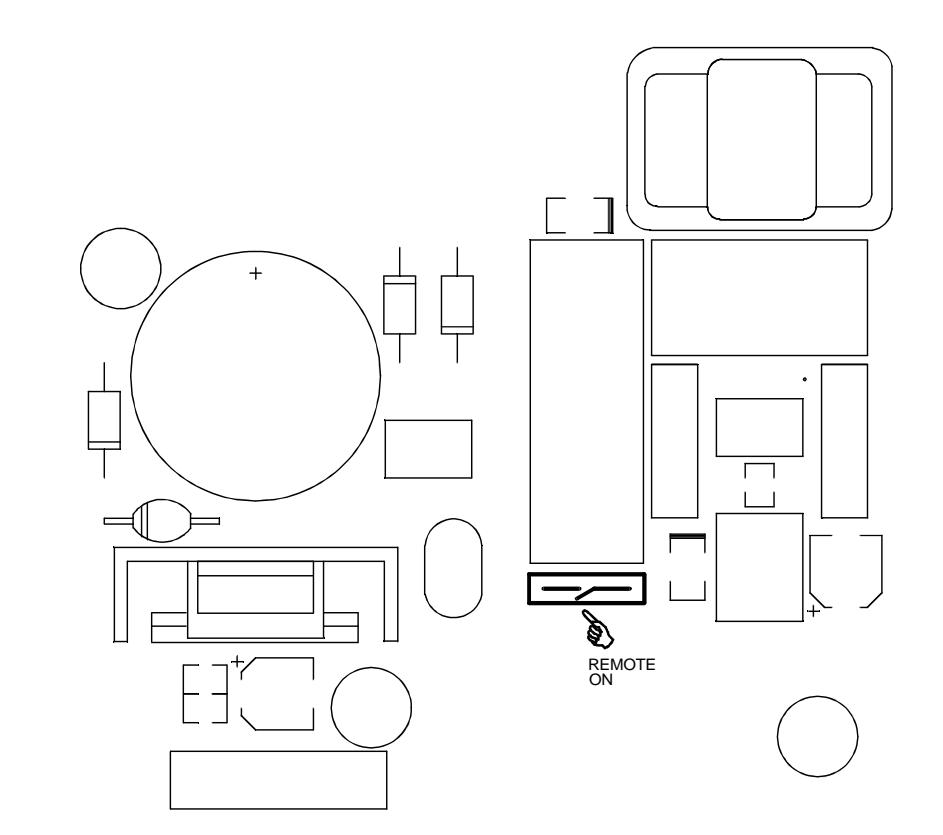

Fig. 18.1 Contact for remote on/off-switching
- Please refer to figure 18.1: Open the marked contact.